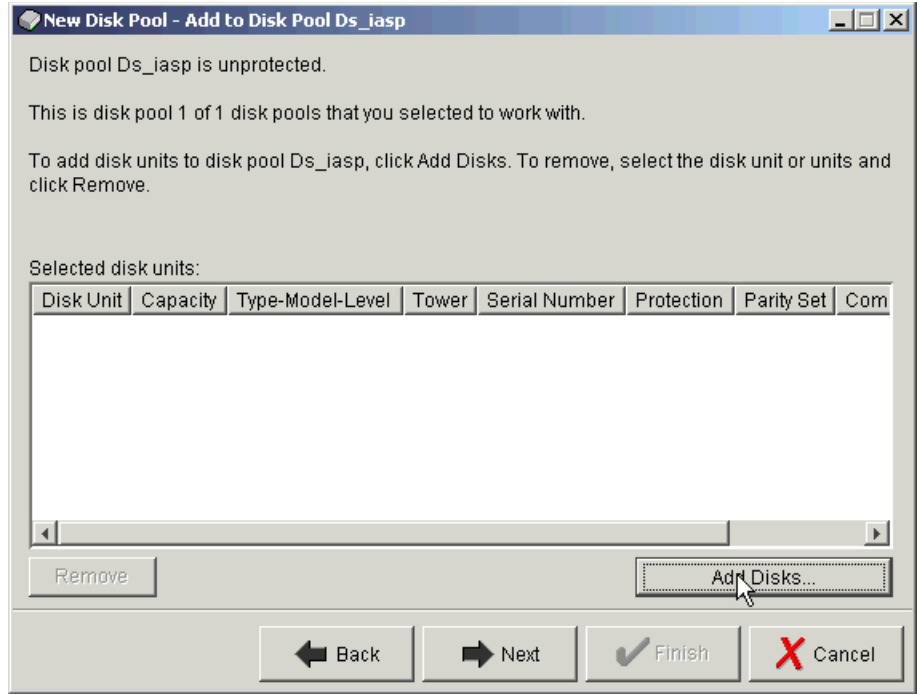

Figure 18-12 Add disks to Disk Pool
- Now you need to add disks to the new disk pool. On the Add to disk pool screen, click the **Add disks** button as shown in Figure 18-12.